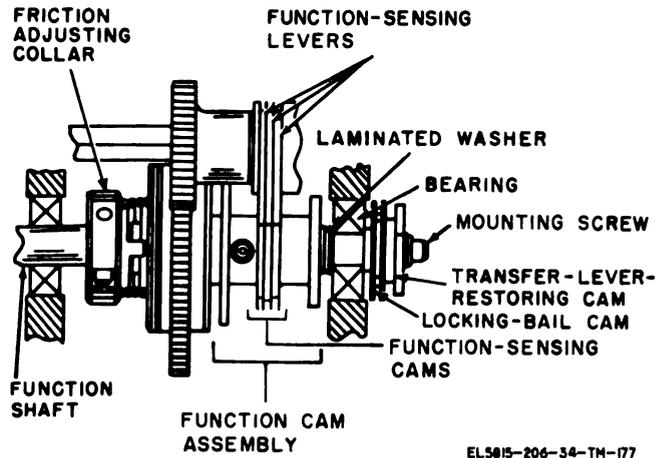

Figure 3-105. Function-cam assembly alignment (TT-4B/TG and TT-698A/TG).
(fig. 3-105)
b. *Adjustment.* Remove the friction-adjusting collar (fig. 3-105). Loosen the setscrews in the drive collar, and position the drive collar to meet the requirement in a above. Tighten the setscrews and recheck the clearance. Replace the friction-adjusting collar and make the square-shaft stop-arm torque adjustment (para 3-210).